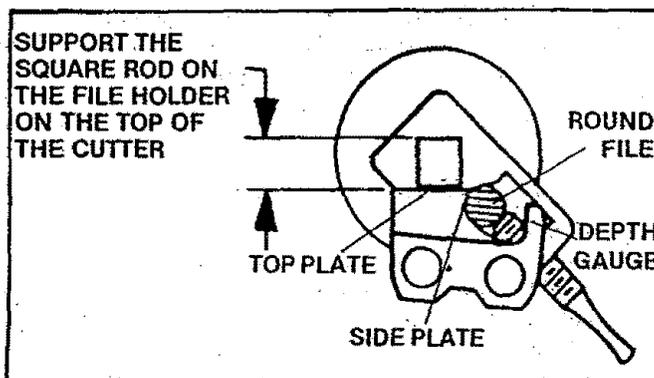

Figure 39
- a.) Position the file holder with the square rod on the top plate of the cutter as shown in Figure 39.